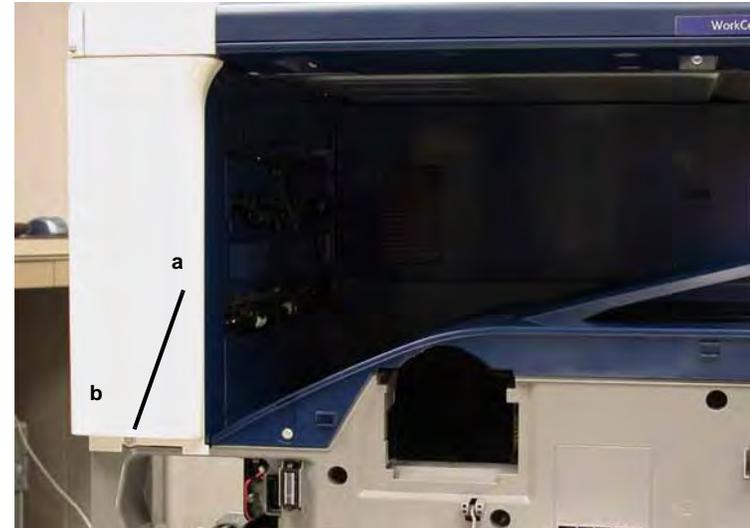

Figure 10 Removing Cover
12. Remove the Front Left Cover and Exit Front Cover (Figure 10).
- a. Remove Screw (1)